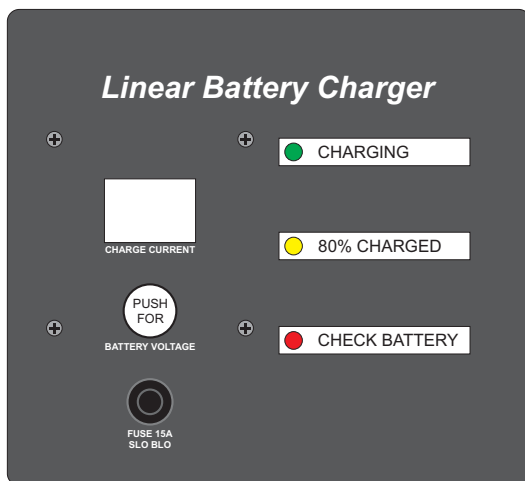

Figure 3-7. Battery Charger Faceplate
- ❑ Plug the extension cord into outlet. Verify that the green CHARGING indicator LED is lit on the battery charger faceplate (Figure 3-7).